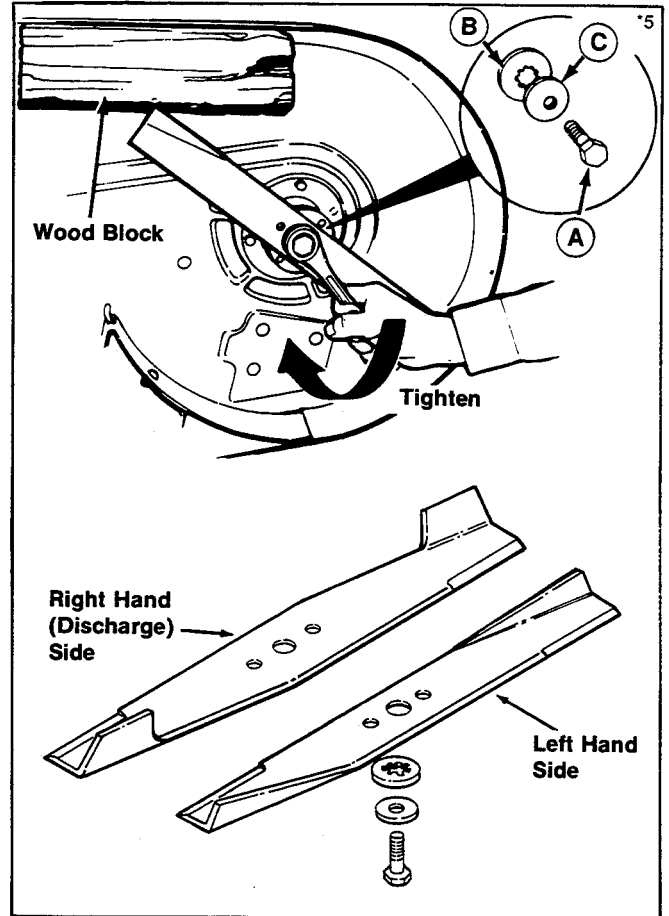

Figure 5.
8. Remove the mower blades and install the new blades with tabs pointing up (toward mower deck). Install the washers and capscrew (A, figure 5). Make sure the spline washer (B) engages the shaft splines. Make sure the cup washer is installed concave side up (toward mower deck). Block the blade and torque capscrew to 60 ft. lbs. Note the difference between the two blades.